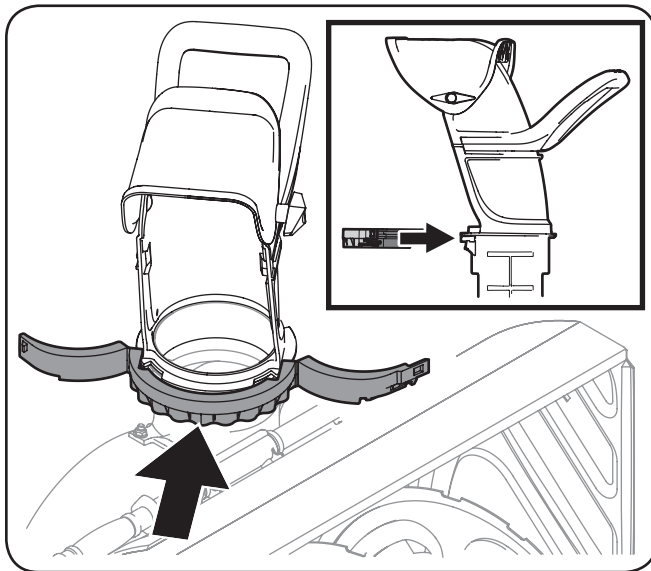

Figure 3-5
- Install the chute band as shown in Figure 3-5.